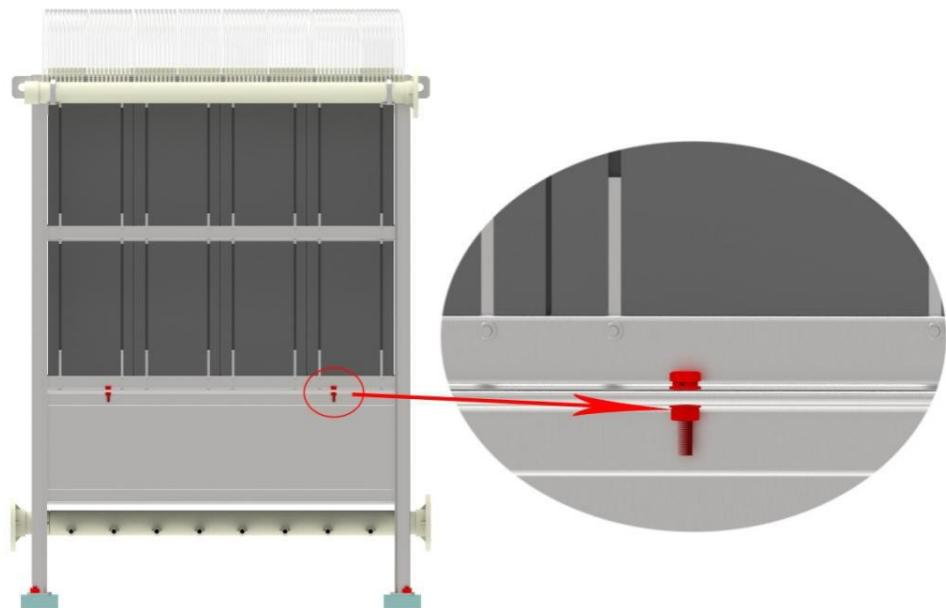

Figure 5-9 Membrane case position method one
(1) Method one: use bolts (show in figure 5-9).